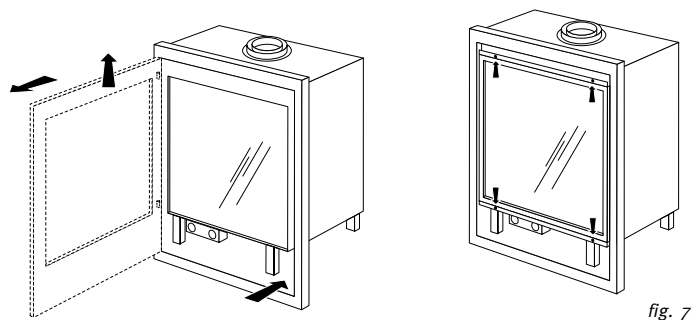

fig. 7
2. Remove the front, by unscrewing the four screws (see fig. 7).
3. Remove the glass by disassembling the securing frame (unfasten the two screws on the bottom of the frame and remove the 2 screws on top of the frame) (see fig. 7).